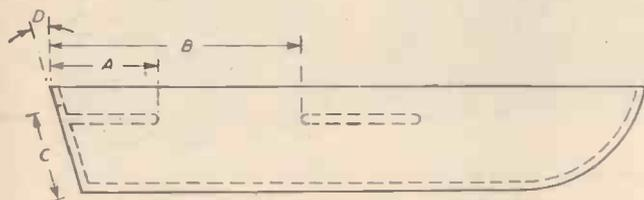

Fig. 2.—Measurements to note when fitting the unit.
The unit will fit any small row-boat without any alterations, providing that (1) the distance from the transom to the farthest edge of the rear seat is less than 19in., as at A, Fig. 2; (2) the distance from the transom to the nearest edge of the centre seat is more than 44in., but less than 61in. (dimension B, Fig. 2); (3) the depth of the transom is 15½in., or less (dimensions C and D, Fig. 2).
Fig. 2.—One of Mr. Oswald's assistants is seen here in the south-west spiral-tunnel on the model railway during the concreting of the floor. The floor has already hardened where he is standing.
Switzerland; also the snapshot (Fig. 2) taken during the completion of the new south-west spiral tunnel that was added to this delightful outdoor model railway during 1951.
With regard to the question of fire risk owing to the close proximity of the inflammable liquid, as shown in Fig. 2 (March issue), this, of course, need not be kept near the lighter. Also, there is nothing to prevent any reader from unplugging the unit directly after use, or to make a hinged door in front of the serrated terminal plates. The insulated handle of part C can be used safely, provided, of course, that the user does not put his fingers on the terminal plates.